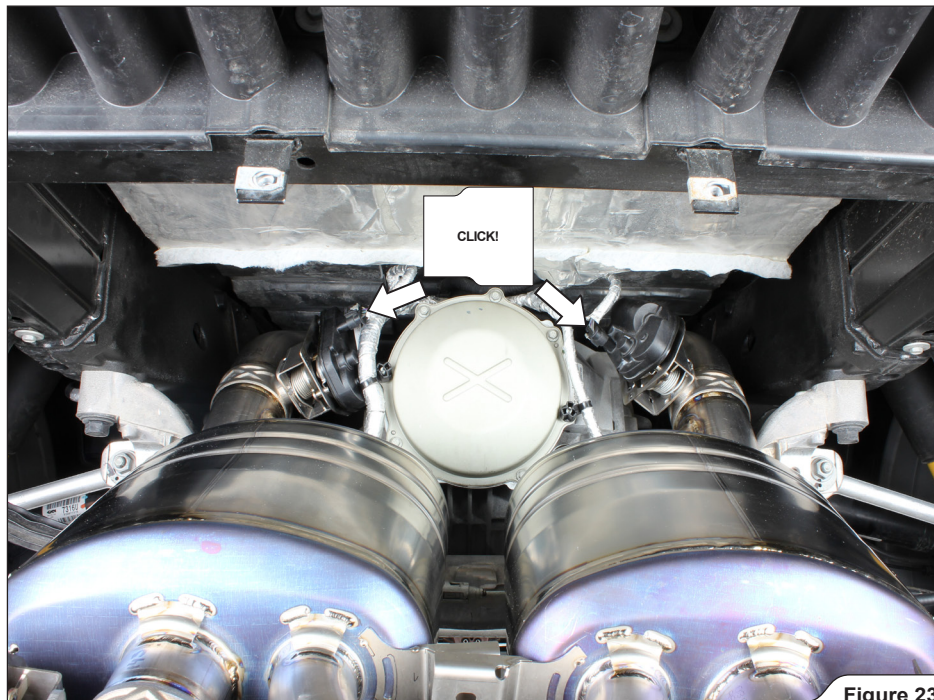

Figure 23
- Slide the mufflers onto the adapters, reconnect the exhaust valve servos' connectors and hand tighten the clamps (**Figure 23, 24**). **For vehicles with NPP stock exhaust system:** reconnect all four exhaust valve servos' connectors.